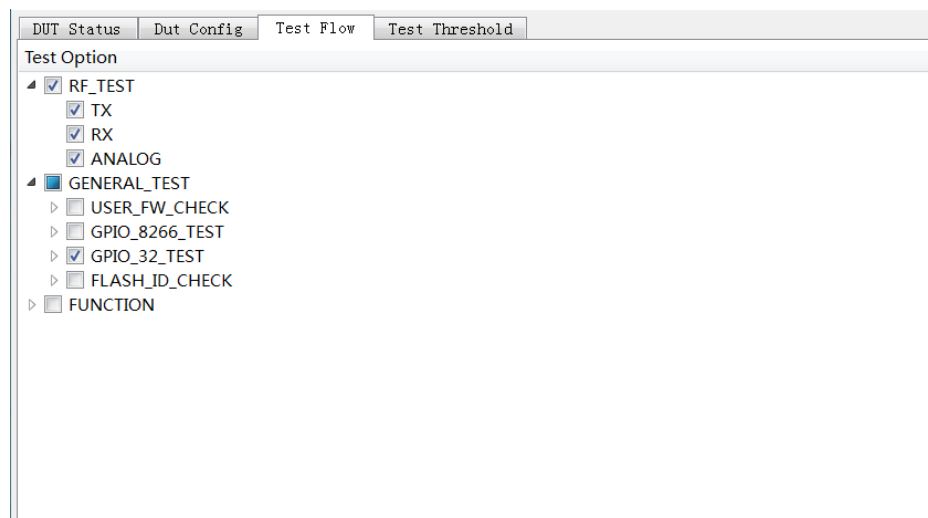

Figure 3-4. ESP32 GPIO Conductivity Test
- **Configuration Interface:** As shown in Figure 3-4, you can enable this test in the *GENERAL_TEST* sub-list on the *Test Flow* tab. For details, please refer to Appendix B.